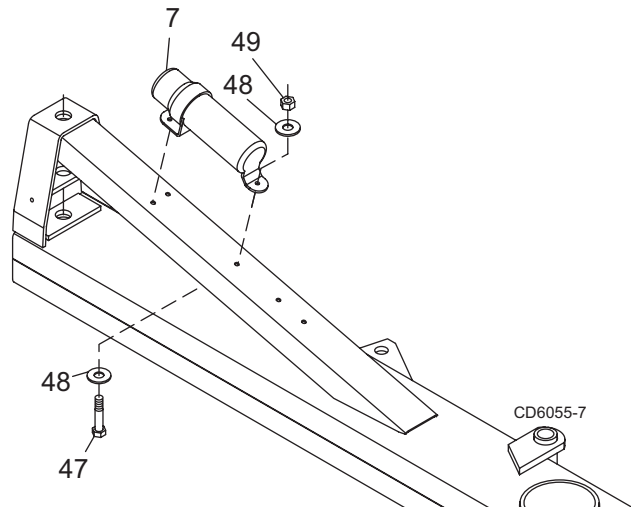

Figure 17 Manual Tube Installation
1. Place manual tube (7) over holes on top of boom assembly as shown in Figure 17.
2. Secure into position using three cap screws (47), six flat washers (48), (one on each side), and lock nuts (49).